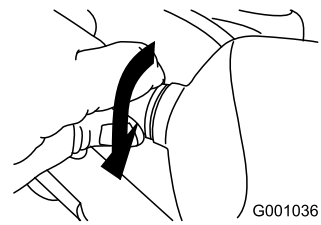

Figure 49
5. Turn the base of the bulb clockwise until it is snug (Figure 49).